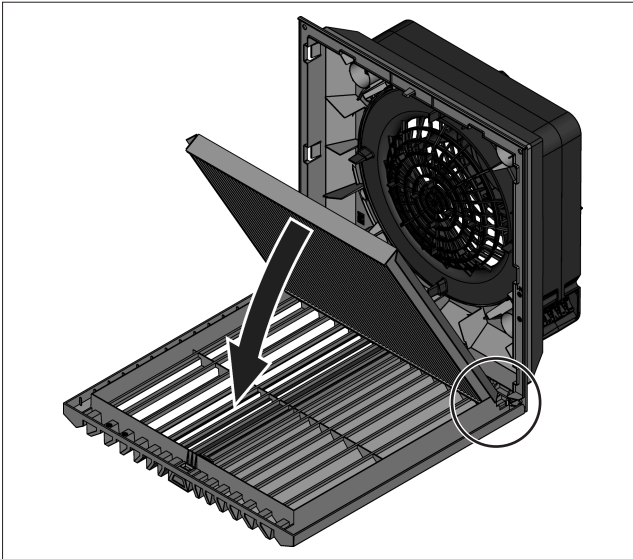

Fig. 11: Installing the IP54 pleated filter
- Place the pleated filter in the louvred grille. The "Top" logo indicates the insertion direction (see fig. 11).